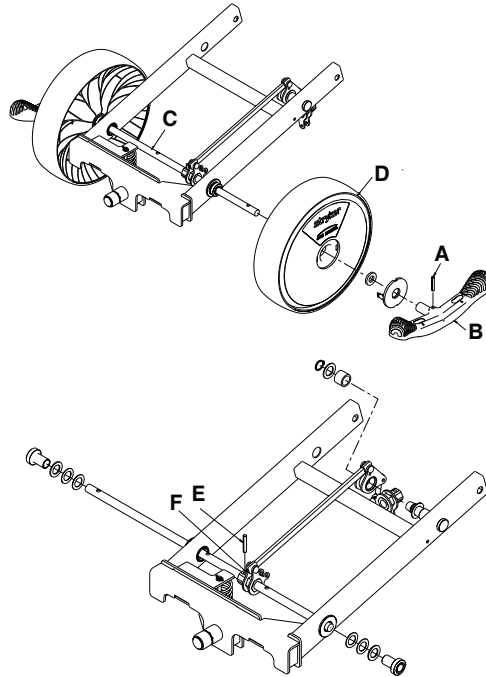

Figure 7 – Replace the side control brake rod
4. Using a hammer and a 7/32" roll pin punch, remove the pin (A) (from the bottom of the brake/steer pedal) that secures the brake/steer pedal (B) to the side control brake rod (C) (Figure 7).